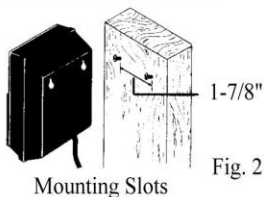

Fig. 2
2. You may hang the transformer indoors or outdoors on a wall, fence, post etc. by using the screws provided. The screw locations are to be 1-7/8" center to center so they will slide into the slots on the rear of the transformer. (Fig. 2)